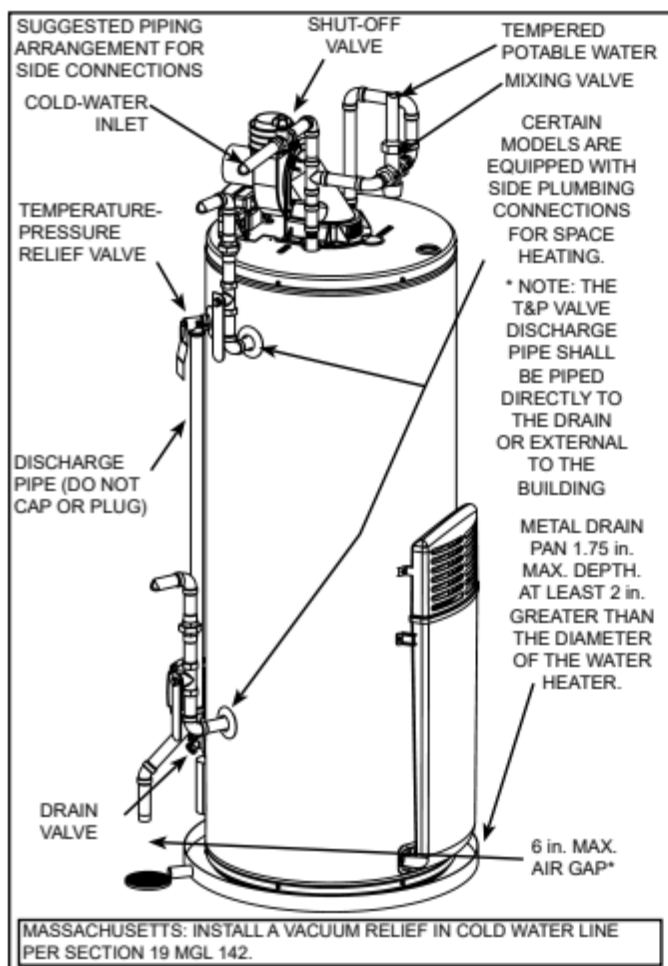
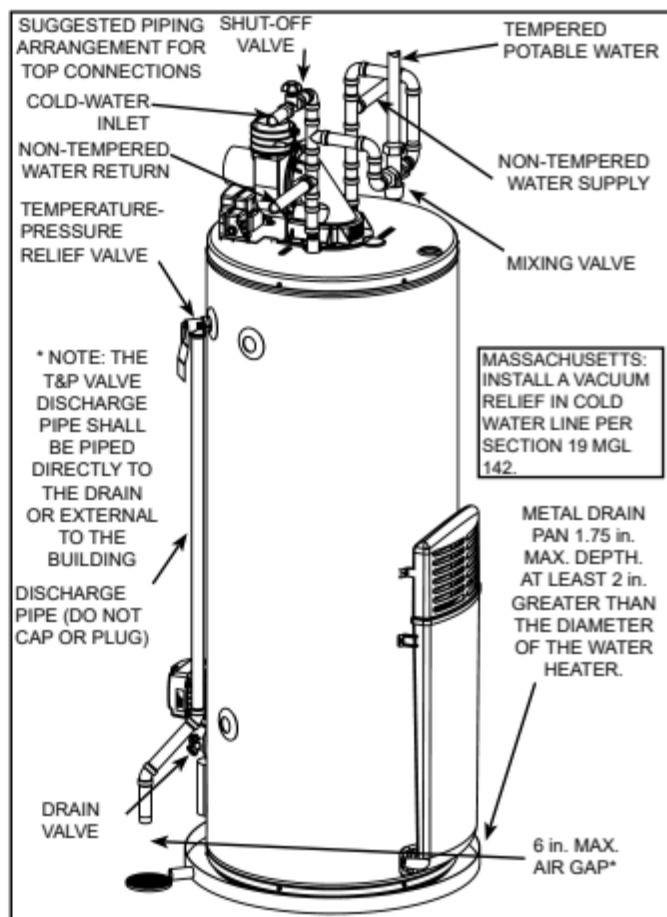

Figure 8.
Figure 9.
Models equipped with Combo Heating capabilities are shipped with the two side plumbing taps **OPEN** (item 8 and item 13 in Figure 1 and see also Figure 8 & Figure 28). If the heater is to be operated without using the side taps these openings **must be plugged** with the two pipe plugs supplied with the heaters.
In addition to using lowest possible temperature setting that satisfies demand of application, a mixing valve should be installed at water heater (see Figure 8 & Figure 9) or at hot-water taps to further reduce system water temperature. Mixing valves are available at plumbing supply stores. Consult a Qualified Installer or Service Agency. Follow mixing valve manufacturer's instructions for installation of the valves. Before changing the factory setting on the thermostat, read the "Operating The Temperature Control System" section in this manual.